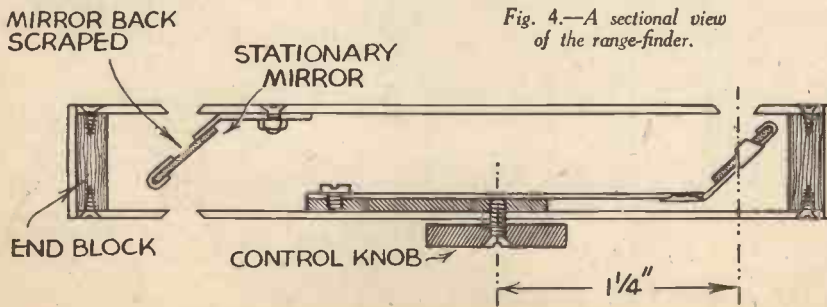

Fig. 4.—A sectional view of the range-finder.
**O**BTAIN a piece of brass about  $\frac{1}{8}$  in. thick, bend up two pieces as shown in Fig. 1, and carefully file the edges until the two go together to form a piece of tube  $\frac{1}{2}$  in. square inside. Now fit a block of wood or brass into the ends and screw the top and bottom sections of the tube to them. A piece of the  $\frac{1}{8}$  in. thick brass may now be screwed or soldered to the outside of the blocks and filed to the shape of the tube or body. If soldered to the blocks, remove the body first so that this does not get soldered up. This end construction is seen clearly in Fig. 4.